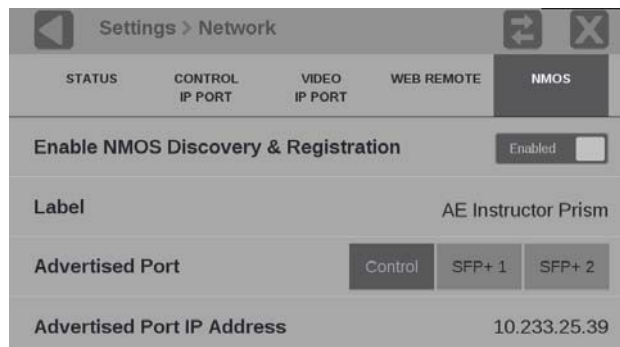

Figure 48: NMOS discovery and registration enabled
3. Slide the **Enable NMOS Discovery & Registration** control to **Enabled** or **Disabled**. (See Figure 48.)